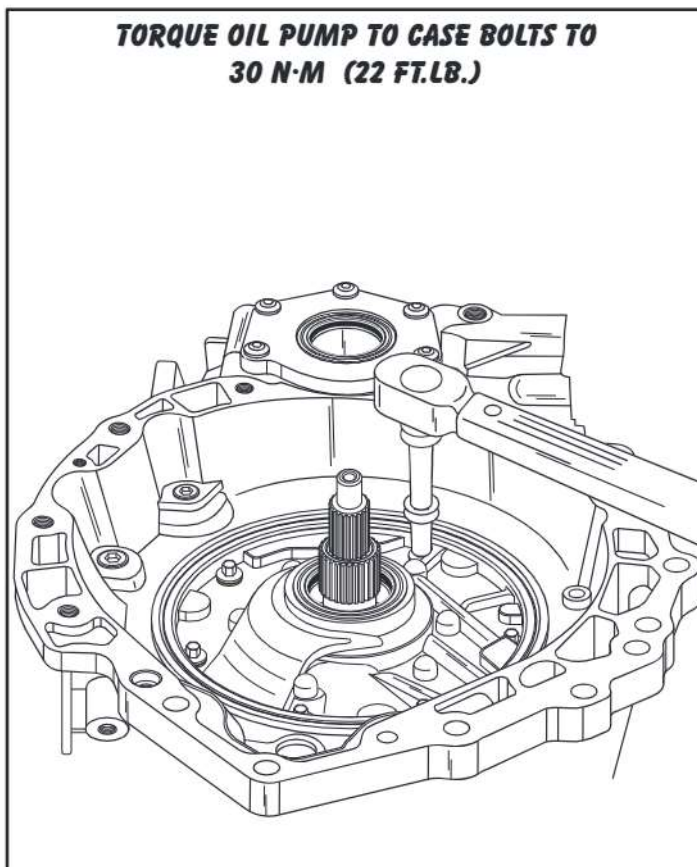

Figure 265
67. Torque all six of the oil pump to case bolts to 30 N·m (22 ft.lb.), as shown in Figure 265.